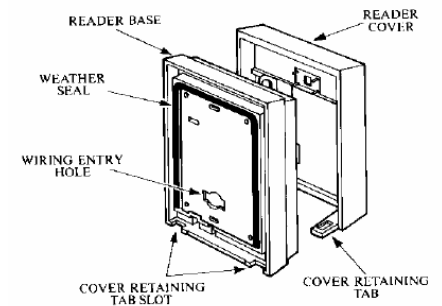

Figure 2
3. For outdoor applications, use a suitable weather-proof back box, or handy box, and install the weather seal (provided) on the back of the readers' base by pushing it securely and evenly into the "U" shaped recess. See Figure 2.